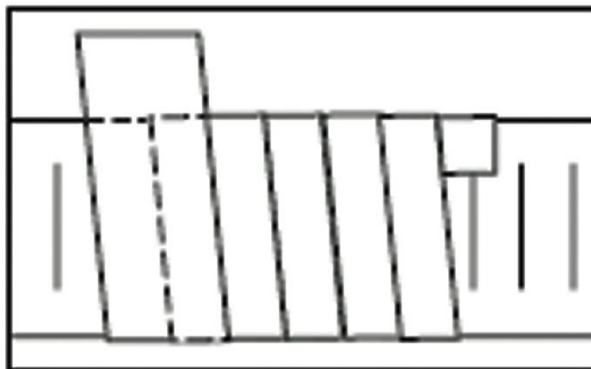
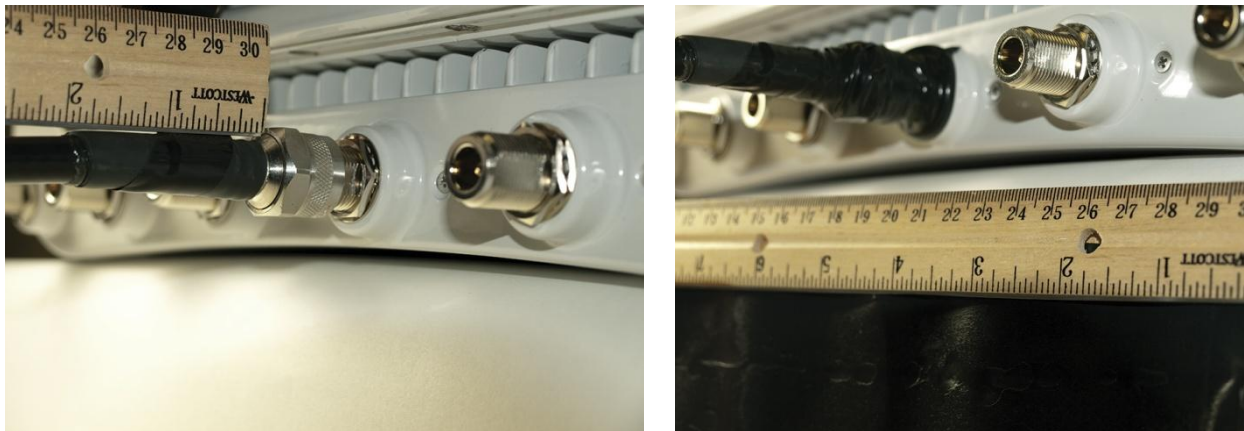

Figure 33: Proper Weatherproof Tape Overlap
Figure 35: First Plastic Tape Layer
- Add extra final layers of tape in warmer climates where there will be long exposure to damaging ultra violet (UV) rays. Two or three extra layers of tape will provide additional UV protection.
- When wrapping tape, overlap the tape to half-width as shown in Figure 33.
- Step 2: Wrap the connection with a layer of 3/4" (19-mm) plastic tape, starting at 1" (25 mm) from the connector. Overlap the tape to half-width as illustrated in Figure 33 and extend the wrapping over the entire connector. Avoid making creases or wrinkles. Smooth the tape edges. See Figure 35.